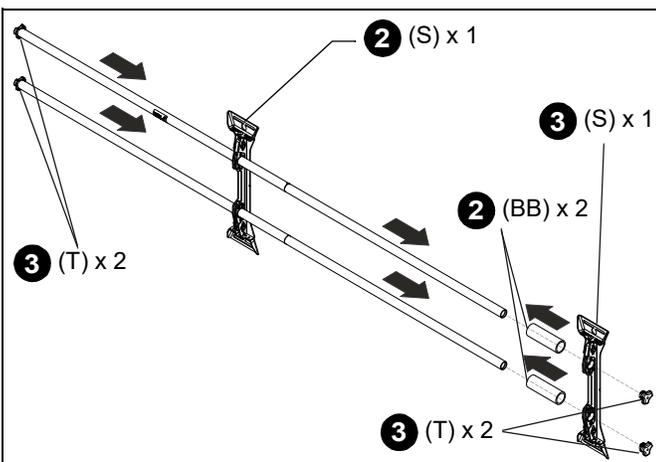

Figure 2
2. Slide rails through the first wall plate (S), then slide two tube collars onto the rails. (See Figure 2)
3. Slide rails through the second wall plate (S) and attach four end caps (T) to the ends of the rails. (See Figure 2)